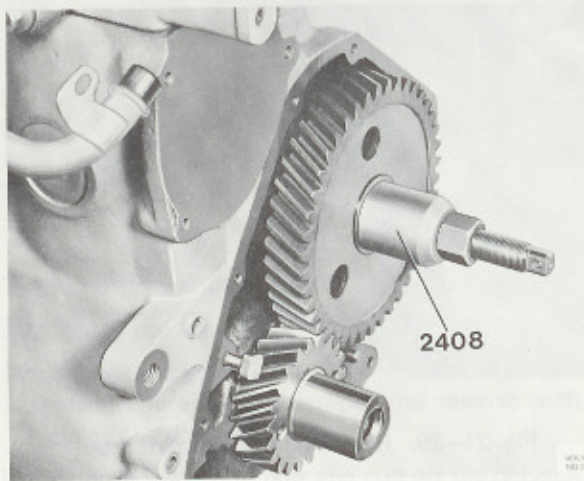

Fig. 21-42. Installing the crankshaft gear
5. Install the crankshaft gear with press tool 2815, Fig. 21-42.